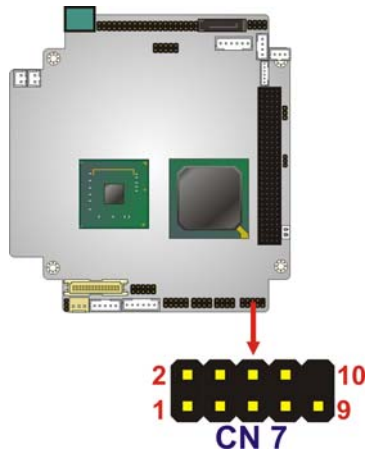

Figure 3-5: Audio Kit Connector Location
- CN Location:** See **Figure 3-5**